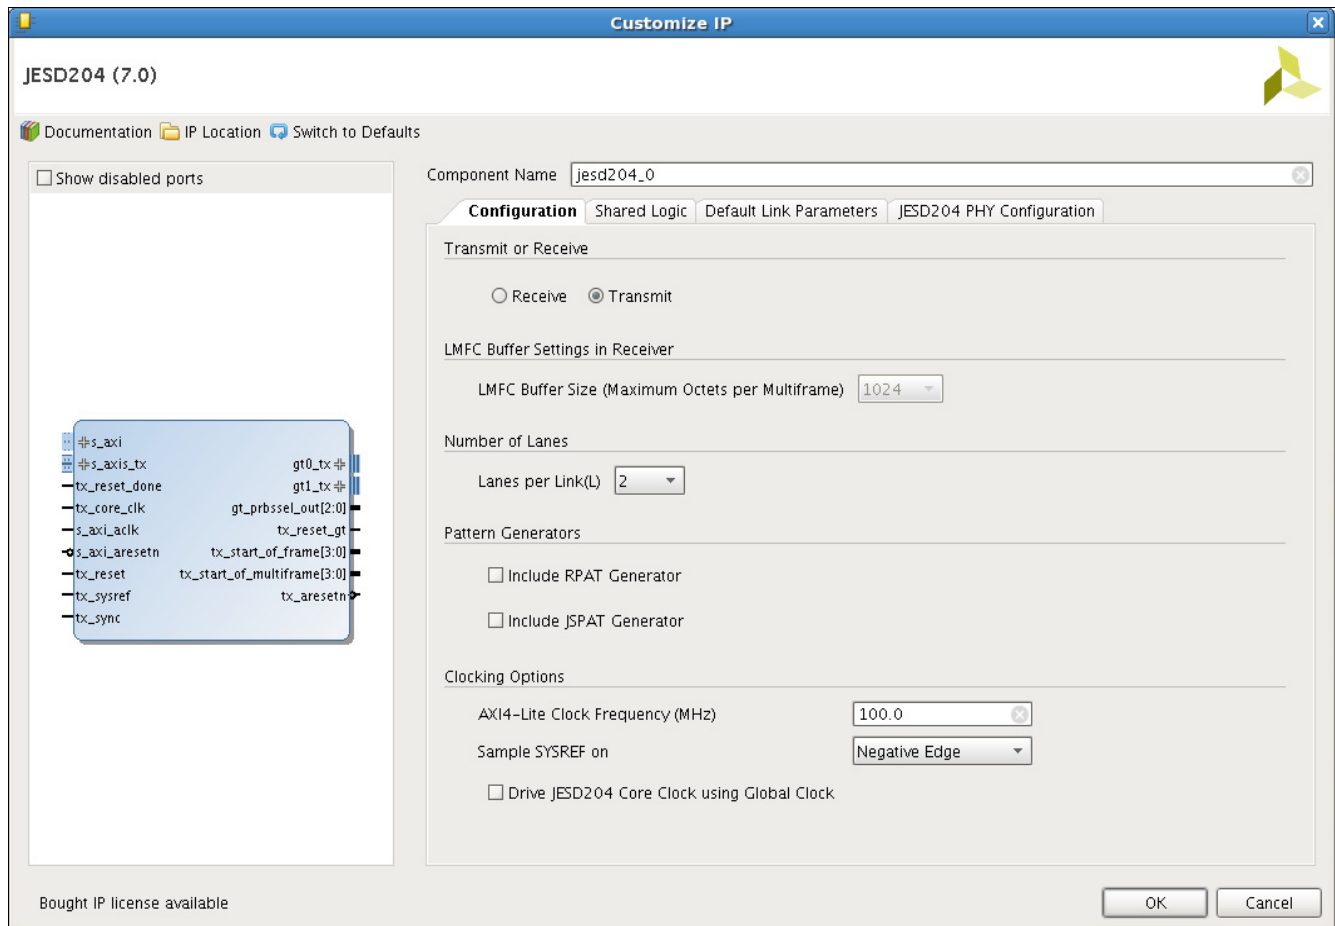

Figure 4-1: Configuration Tab
- **Transceiver Parameters** – The line rate and reference clock frequency can be selected using the Vivado IDE (see Figure 4-1). For any selected line rate, valid reference clock frequencies can be selected from a drop-down list.